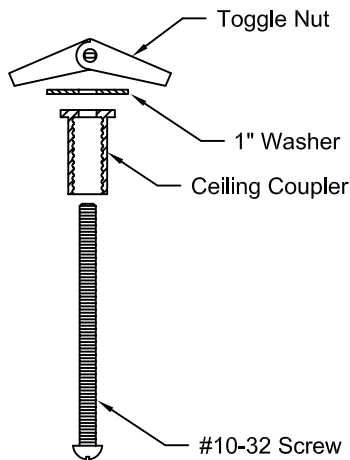

Figure 1
2. Screw Toggle Nut in place on Screw using several turns. See Fig. 1.